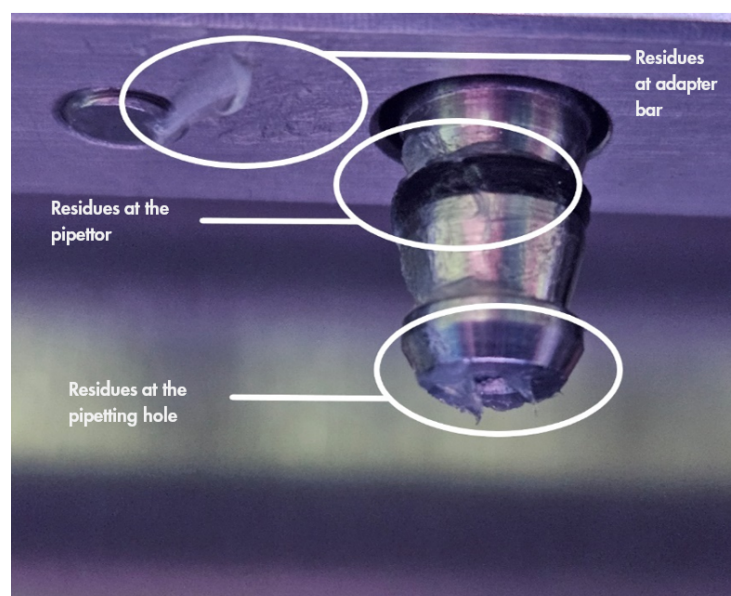

Figure 188. Example of an overgreased tip adapter. All marked spots should be checked and all visible grease residues should be removed.
8. Make sure that there is no grease present on parts other than the D-rings, especially on the bar on top and the opening of the pipettors (see Figure 188).